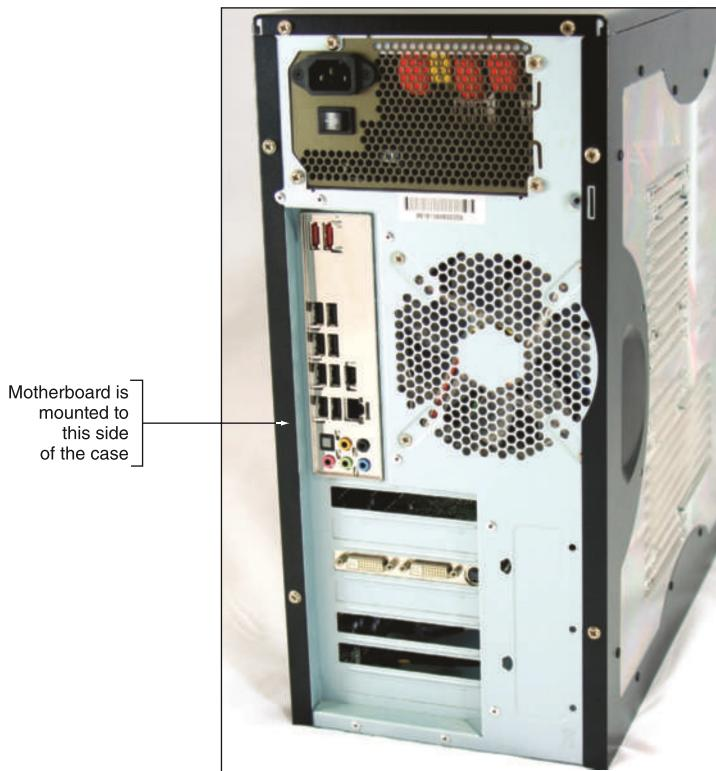

Figure 2-2 Decide which side panel to remove
- ▲ Most cases have panels on each side of the case that can be removed. It is usually necessary to only remove the one panel to expose the top of the motherboard. To know which panel to remove, look at where the ports are on the rear of the case. For example, in Figure 2-2, the ports on this motherboard are on the left side of the case, indicating the bottom of the motherboard is on the left. Therefore, you will want to remove the right panel to expose the top of this motherboard. Lay the case down to its